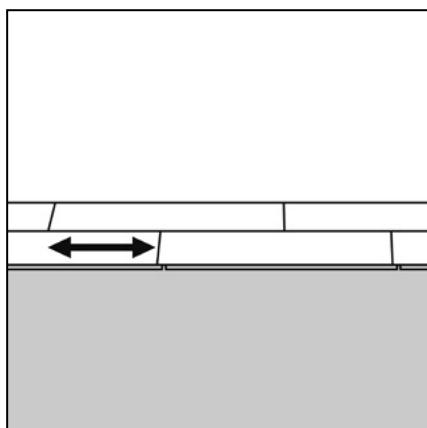

Figure 15 Stagger the short joints
- > Always try to stagger the short joints approx. 150mm from the nearest short joint in the previous row (fig 15). Do not forget to include the required expansion gap to the wall.